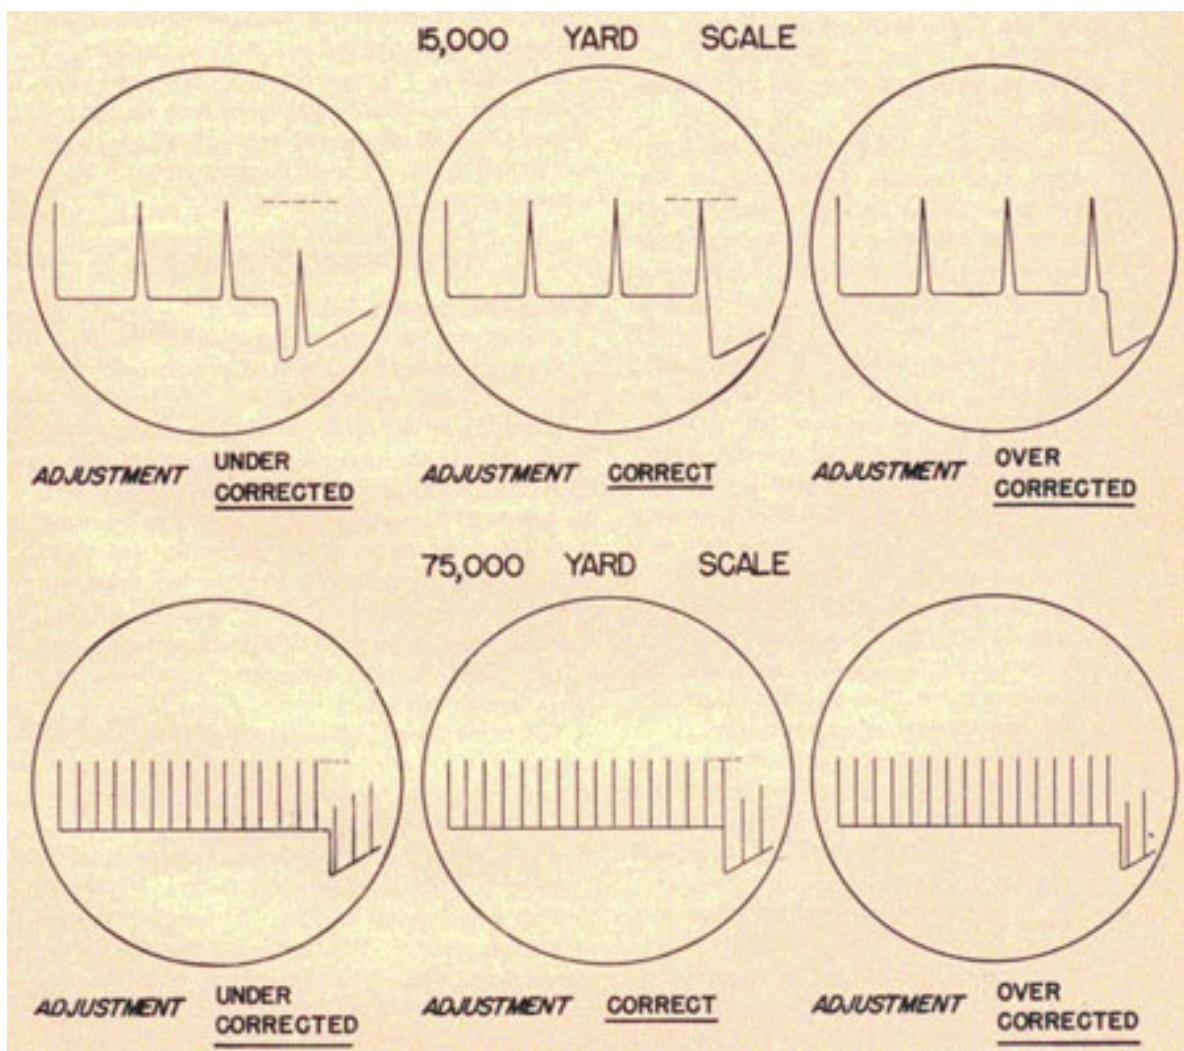

Figure 4 SG-2. Correct calibration at 15,000- and 75,000-yard ranges scales.
appear along the time base on the range scope. The operator now turns the range crank (N) until the 15,000-yard marker just begins to "pull down" into the step. The diagram in figure 4 SG-2 illustrates how the step should appear when adjusted to the correct position. If accurate, the range counters should read exactly 15,000 yards. Next, the step is lined up with the center of the 5,000-yard marker. Now, the counter should read exactly 5,000 yards.